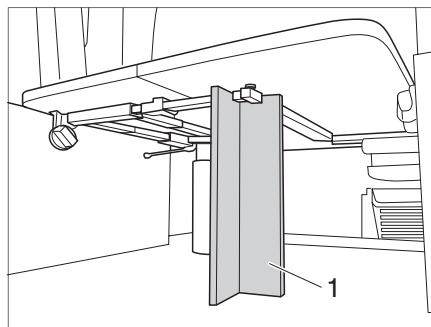

Fig. 73 Wooden support
- ▶ Slide the table top onto the support edge and place the wooden support (Fig. 73,1) under the table.